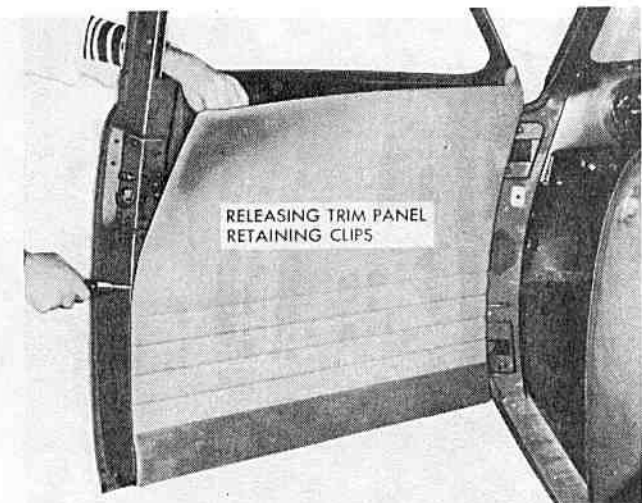

FIG. 11
**DOOR TRIM PANEL** To remove the trim panel, release the retaining clips by prying the panel away from the door (see Fig. 11). After removing the trim panel, be sure to remove the coil springs from the window regulator and remote control shafts.